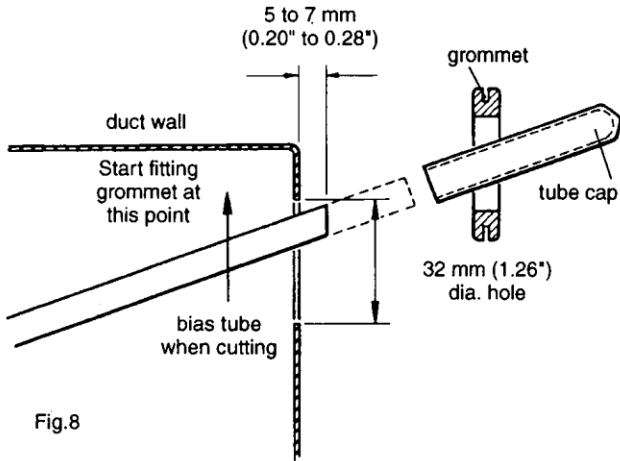

Fig.8
**6.6** Bias protruding ends of tubes towards the edge of the 32 mm (1.26") diameter hole whilst cutting to length, and cut tubes 5 to 7 mm (0.20" to 0.28") from the outside of the duct wall. **DEBURR and REMOVE SHARP EDGES** from the tube ends and slide tube caps over tubes (see Figs. 8 & 9). Fit grommets as shown.